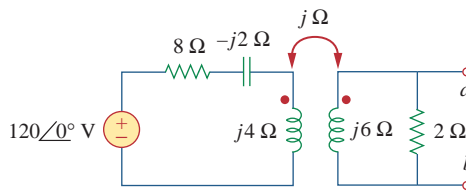

Figure 13.85
13.16 Obtain the Norton equivalent at terminals $a-b$ of the circuit in Fig. 13.85.